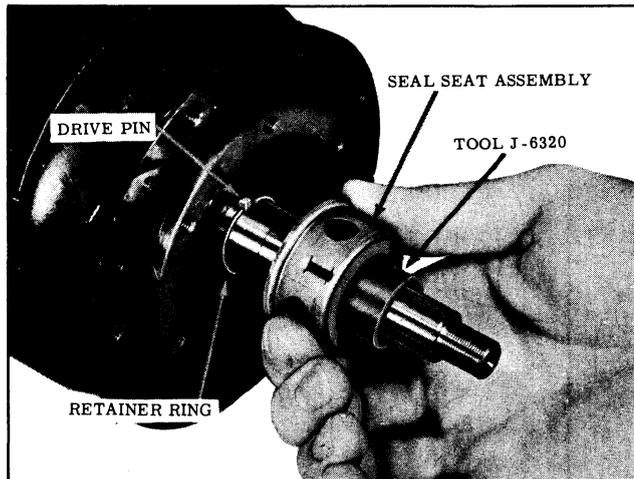

Fig. 14-36 Installing Seal
4. Coat the entire seal assembly with Frigidaire Oil and install the seal assembly, making sure the drive pin engages the keyway in the seal. (See Fig. 14-36)